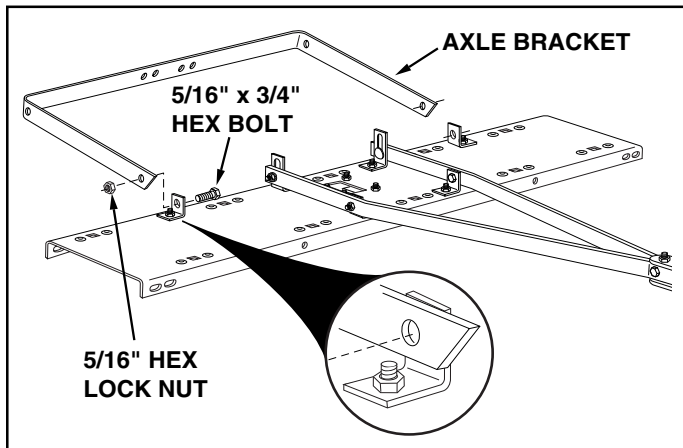

FIGURE 5
11. Assemble the axle bracket on the outside of the angle brackets using two 5/16" x 3/4" hex bolts and 5/16" hex lock nuts. The ends of the axle bracket must point as shown in figure 5. **Tighten** and then **loosen** the bolts and nuts slightly.